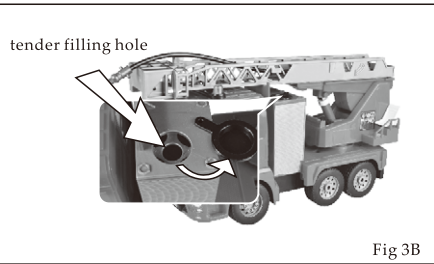

Fig 3B
- 2、To operate the function of spraying, open the water tank and fill it with clean water (in order to avoid damaging the car, the water tank should be empty, when the remote control car is not used or the function of spraying is not performed for a long period). (Fig 3B)